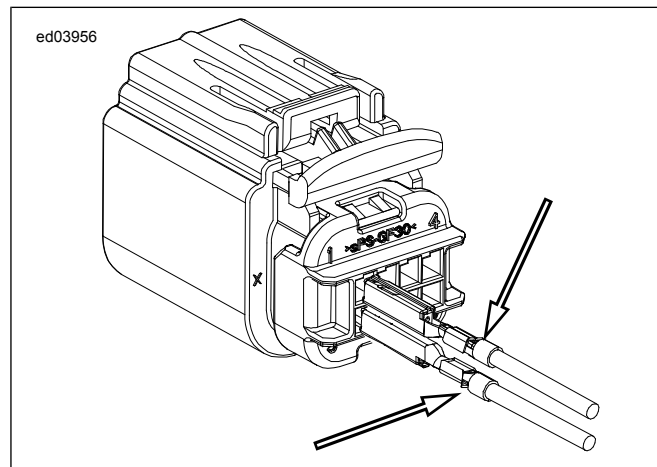

Figure B-44. Socket Terminal Orientation: Crimp Open Side
1. See Figure B-44. Align the open side of the crimp to the tang side of the connector cavity.